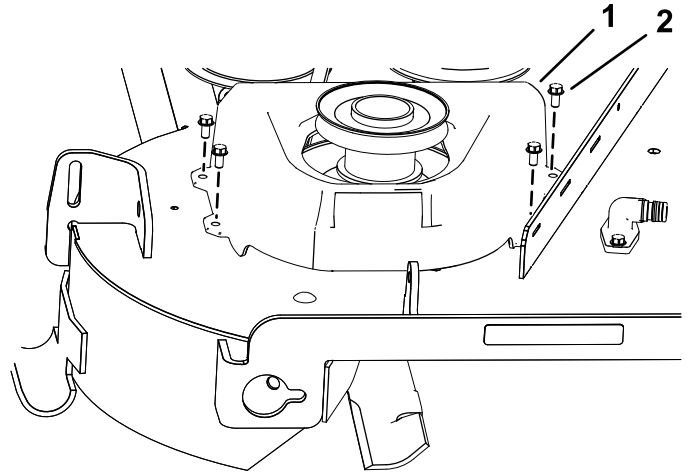

Figure 11
4. Install the new belt cover over the pulley assembly using the 4 previously removed screws (1/4 x 1/2 inch) as shown in Figure 11.